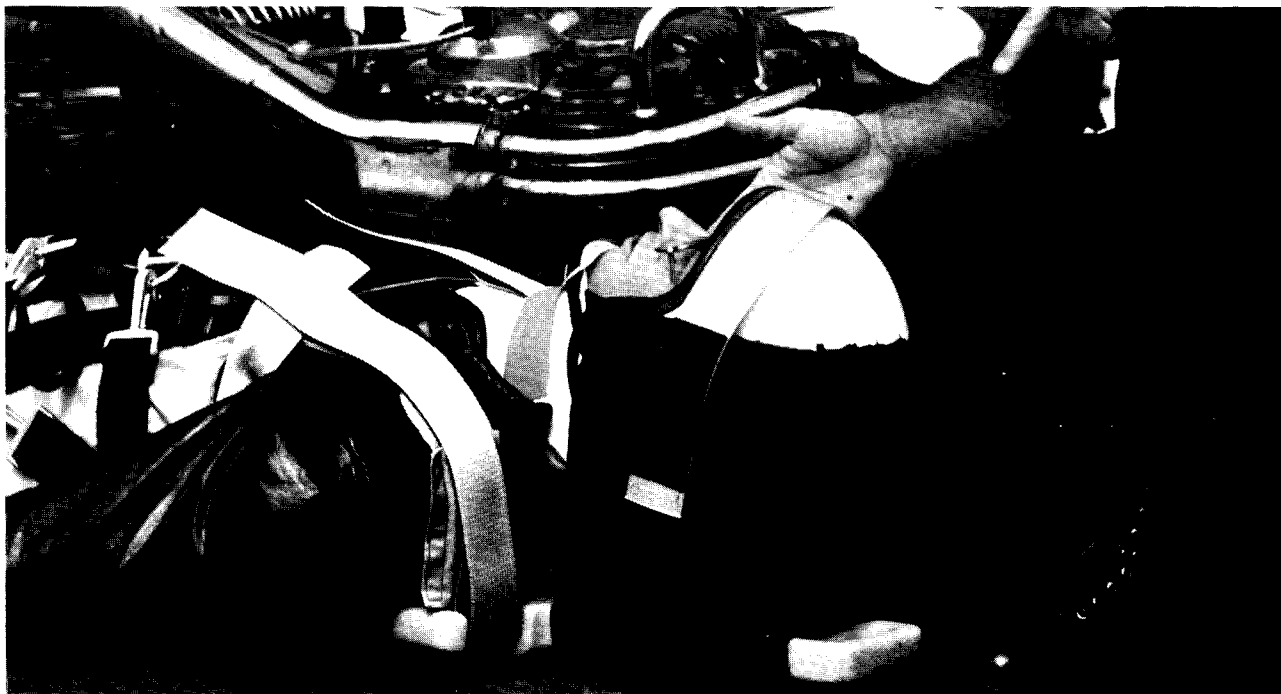

Figure 9.1
9.1 Attachment of the helmet harness may be accomplished in the same fashion as the head harness. (Figure 9.1)